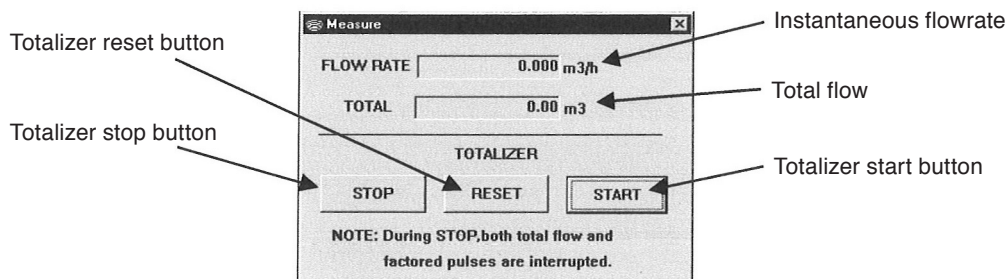

Fig.16
- A message box for process variables as shown in Fig. 16 appears.